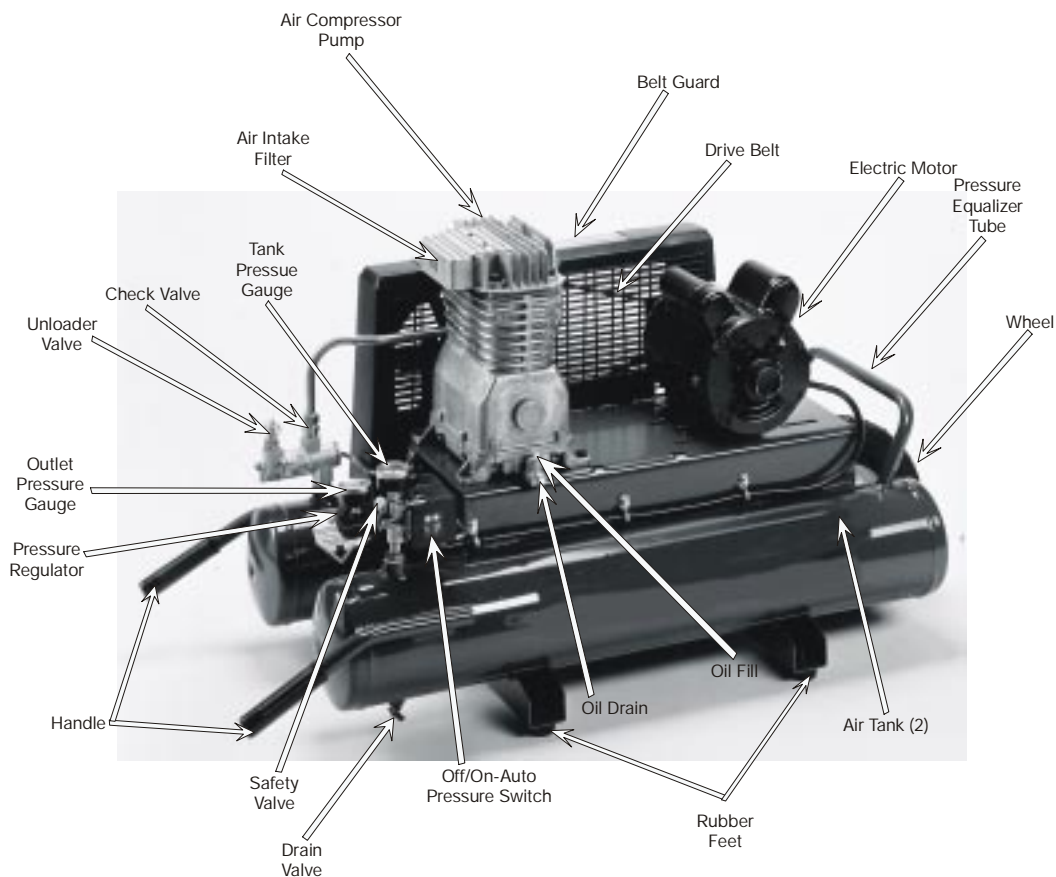
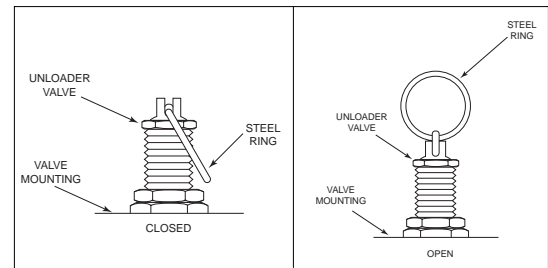

Figure 1 — Electric Motor Powered Air Compressor Wheelbarrow Style
Figure 3 - Unloader Valve Positions
1. To prevent pressure from building up in the air tanks during this break-in period, you must open the unit's unloader valve (Refer to Figure 1 for location and Figure 3 for operation). To do this, lift the steel ring on the unloader valve, rotate the ring a quarter turn (90 degrees), then slowly lower the ring so it rests crossways on the slot at the top of the valve, but not in the slot.
2. Open the pressure regulator (Refer to Figure 1 for location) by rotating the knob clockwise to its built-in stop.
8. After completing Step 7, lift the steel ring on the unloader valve and rotate it 1/4 turn (90 degrees), allowing the spring tension to pull the ring into the slot at the top of the unloader valve (Refer to Figure 3).